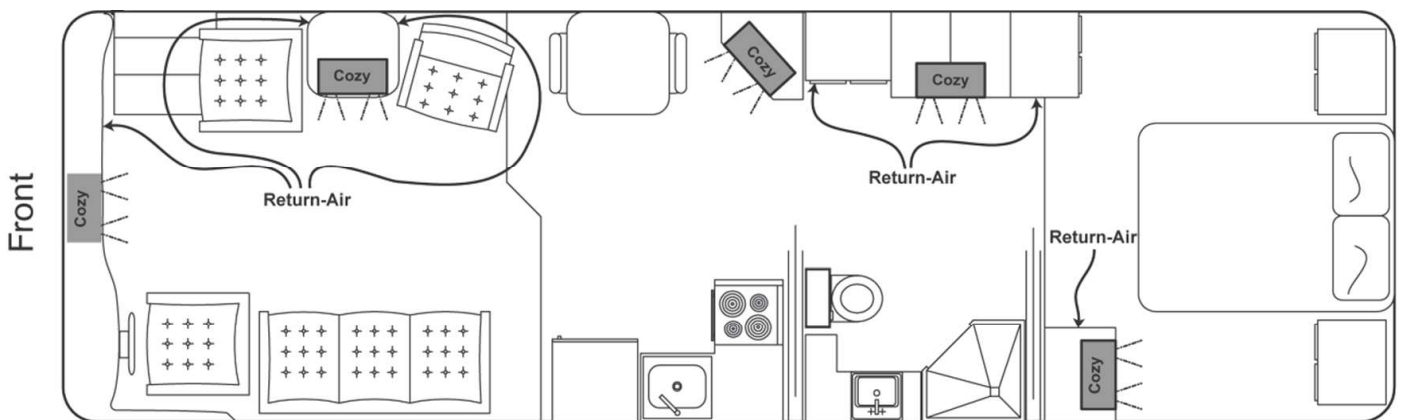

Figure 146
- Must be cold air returns installed for every heat exchanger (reference Figure 146)